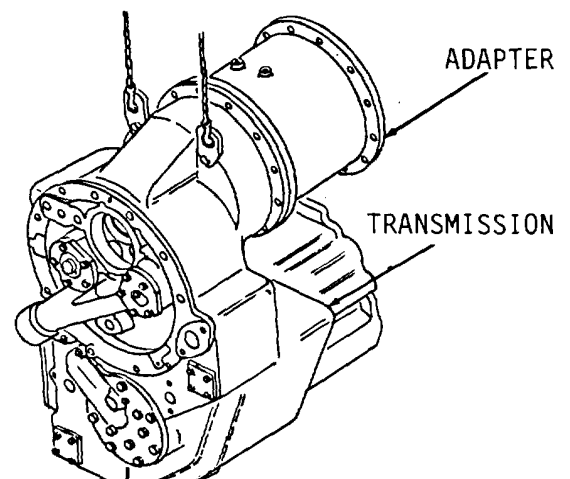

Figure 5-30.
4. Using hoist and chains, remove transmission and adapter (Figure 5-30) from vehicle.